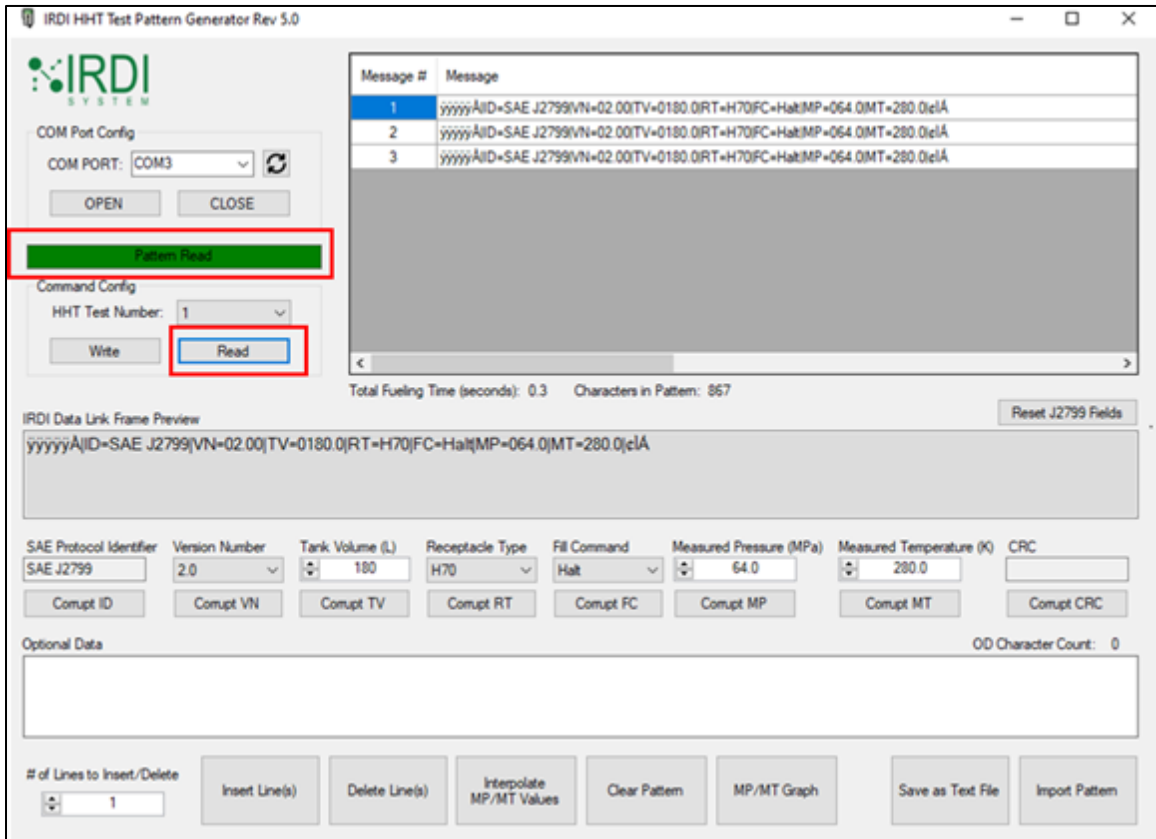

FIGURE 6-25 HHT TEST PATTERN GENERATOR SOFTWARE – HHT FILE READ
STEP 3	<p>Click on the “Read” button.</p> <p>In the “HHT Status” window, the message “Reading Pattern” will be displayed. Wait while the HHT is read.</p> <p>The “HHT Status” message will display “Pattern Read” when the HHT read is completed – see Figure 6-25 below. The contents of the file that was read will be shown in the top right area of the screen.</p>